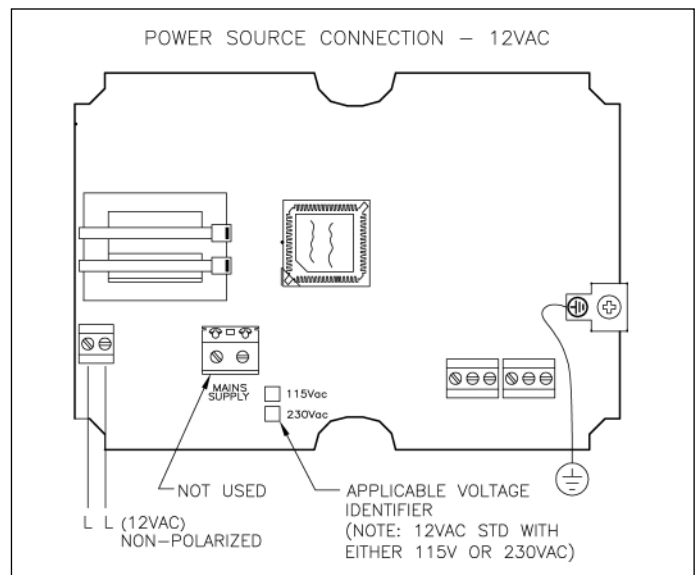

Figure 7
- 2) 12VAC Source:** (See Figure 7) A dedicated, isolated 12VAC supply voltage can be connected to the +L and -L terminals. This feature allows for a more convenient means to power the unit without the concerns of supplying high voltage. This source could be a wall transformer or flange mount transformer, with 12VAC output, 5~10VA rating (reference Stancor #STA-4112A (wall, plug-in) or Stancor #P-8392 (chassis mount)).